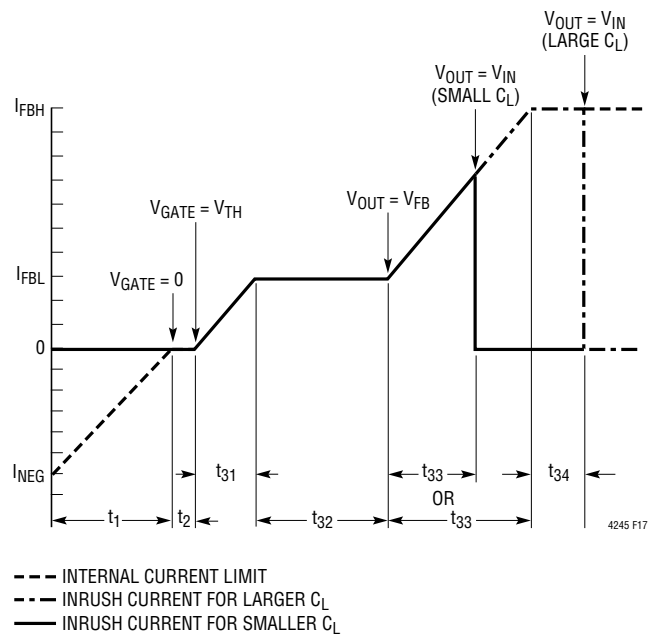

Figure 17. Inrush Current Profile for Design Example
3. To determine the TIMER capacitance, the time required to completely power-up all supply outputs simultaneously needs to be calculated. There are three parts to this time: time for the internal current limit to cross zero (t₁), time for the gate to slew to the MOSFET threshold voltage (t₂) and the time for the current flow to charge up the load capacitors (t₃) (see Figure 17).
t₃: Under simultaneous power-up each output voltage affects the inrush current profile. To simplify calculations, the inrush current profile shown in Figure 17 is chosen. All the current is assumed to charge the load capacitor, i.e., there is no load current. There are four parts to t₃ as shown. Equations 8 to 11 are used to determine t₃₁ to t₃₄: